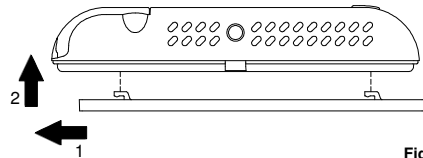

Fig. 3
1. Release the plate attached to the thermostat base by pushing it to the left, this way releasing the teeth indicated in Fig. 3.